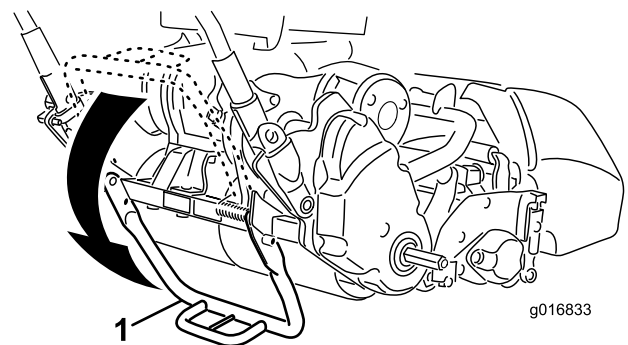

Figure 7
1. Push the kick stand down with your foot **in the center of the kick stand** and pull up on the lower center machine handle until the kick stand has rotated forward, over center (Figure 7).